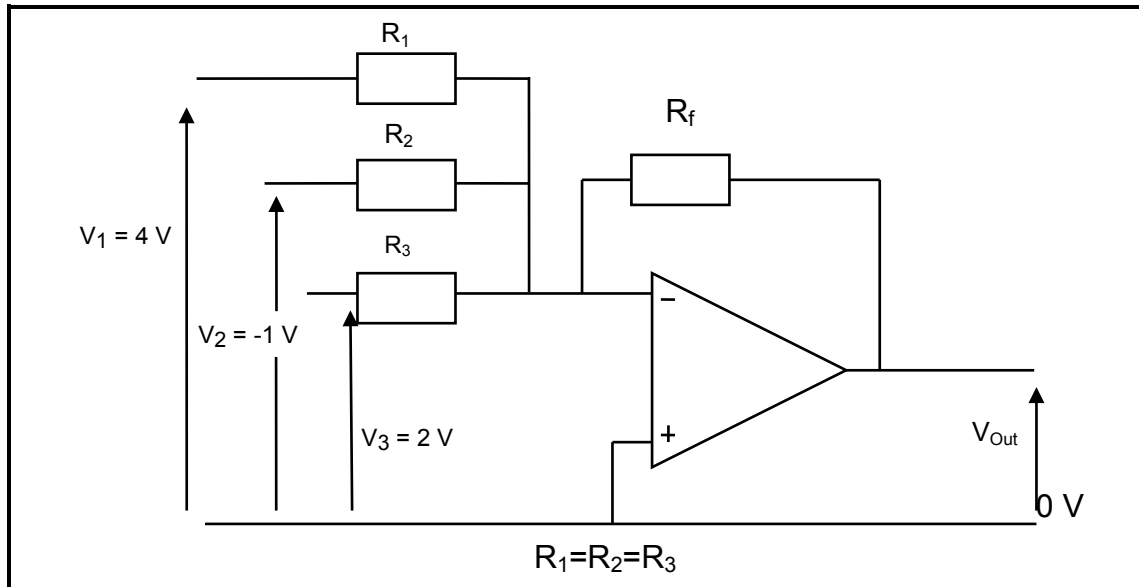

FIGURE 7.2: OP AMP CIRCUIT
7.7 Study FIGURE 7.2 below and answer the questions that follow.
- 7.7.1 Identify the op amp circuit in FIGURE 7.2. (1)